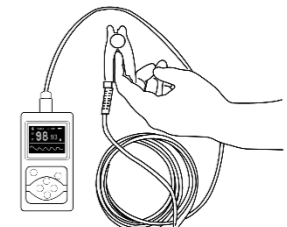

Figure 6. Sketch map for finger placement
The finger should be placed correctly (see Attached figure 6), as improper assembly or improper contact position for sensor will influence the measurement.
A. Insert the finger into the probe as shown in Figure 6.
(The appearance of actual probe may be different with the one shown as Figure 6, please refer to the actual probe.)